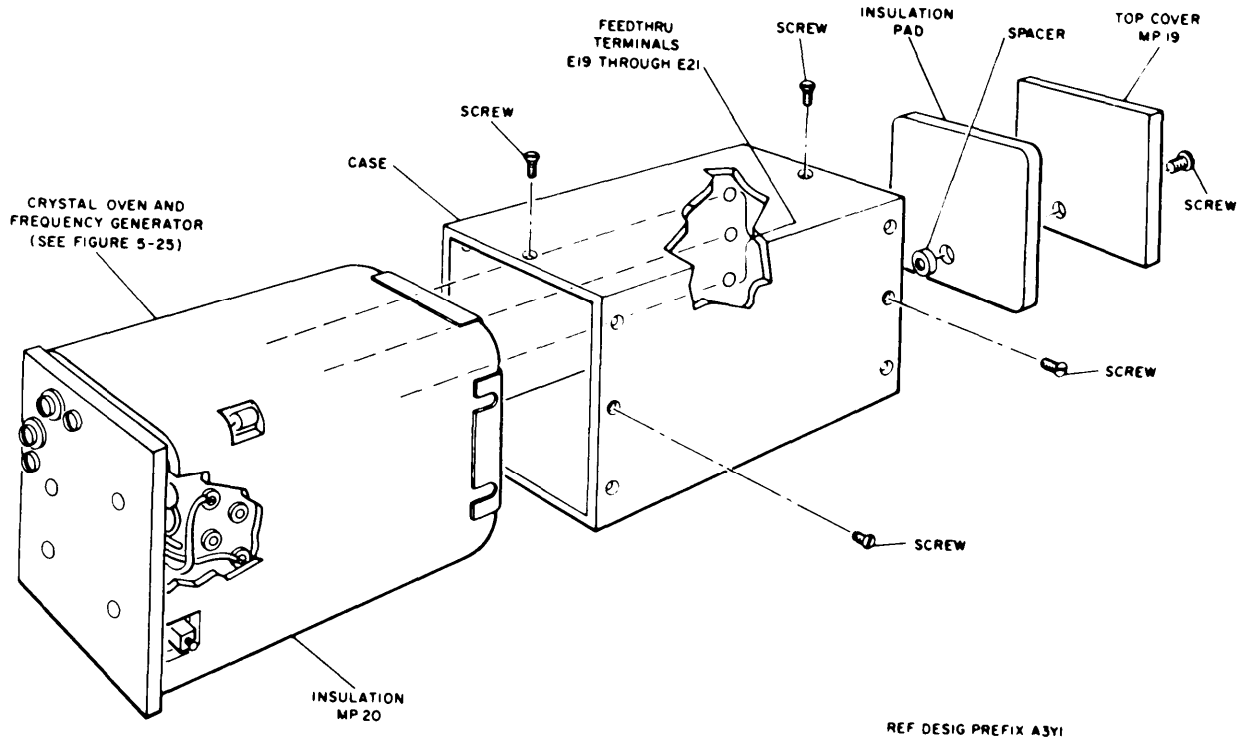
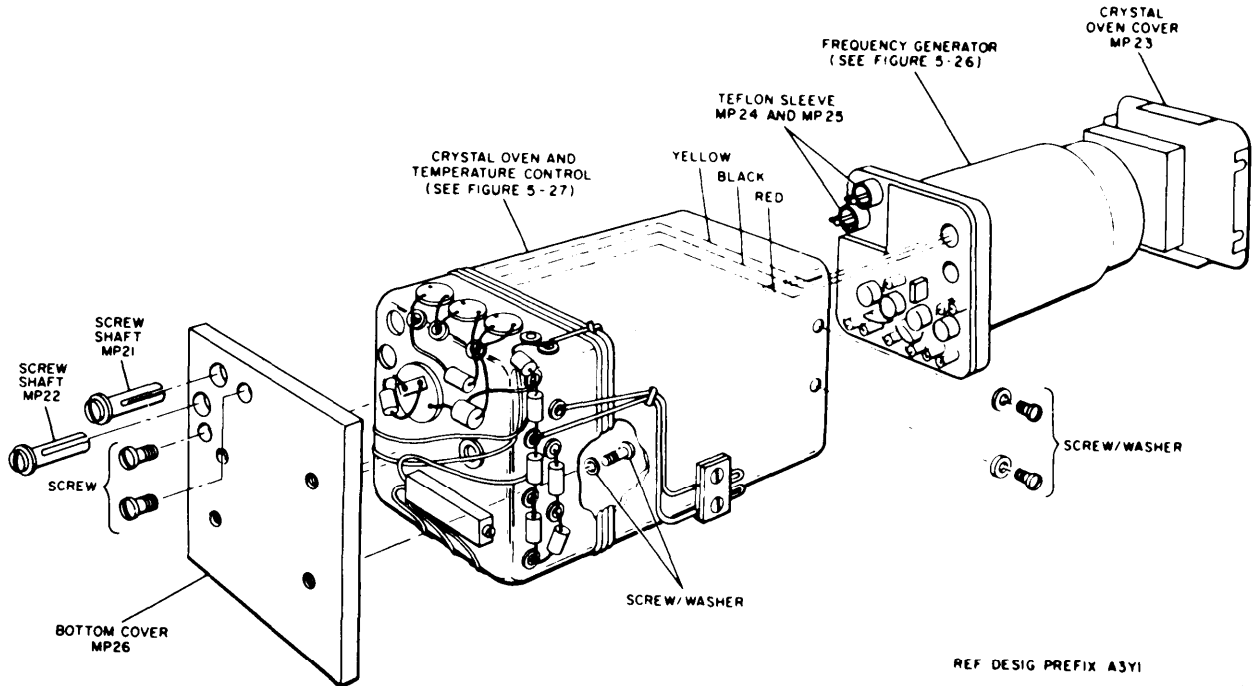

Figure 5-24. Disassembly of 1-MC Oscillator A3Y1
Figure 5-25. Disassembly of Crystal Oven
(1) Remove and save the eight screws (four on each side) from the case of the 1-mc oscillator (see figure 5-24).
(2) Remove and save the screw and washer that secure the top cover A3Y1MP19 and remove the top cover and insulation pad.
(3) Unsolder the yellow, red, and black leads from the feedthru terminals A3Y1E19 through A3Y1E21.
(4) Slide the 1-mc oscillator out of its case; remove the glass tape and insulation wrapping A3Y1MP20 from the crystal oven.
(5) Remove and save the two screw-shafts (A3Y1MP21 and A3Y1MP22) and locking screws (figure 5-25).
(6) Unsolder the black lead from stud terminal A3Y1E18.
(7) Remove and save the eight screws and nuts that secure the crystal-oven cover A3Y1MP23 and remove the crystal-oven cover and crystal pad.
(8) Remove and save the three screws and washers that secure the frequency generator to the crystal oven; then slide the frequency generator out of the crystal oven.
(9) Remove the two screws and six washers that secure printed circuit board A3Y1E1 to the panel A3Y1MP6. All test points on the printed circuit board are now accessible, including test points J and K which are located on the foil side.
(10) Remove the four screws and washers that secure the bottom cover A3Y1MP26 to the crystal oven; then remove the bottom cover. Parts mounted on the bottom of the crystal oven are now accessible.
(11) To reassemble the 1-mc oscillator, perform the procedure of steps (1) through (10) in a reverse order.